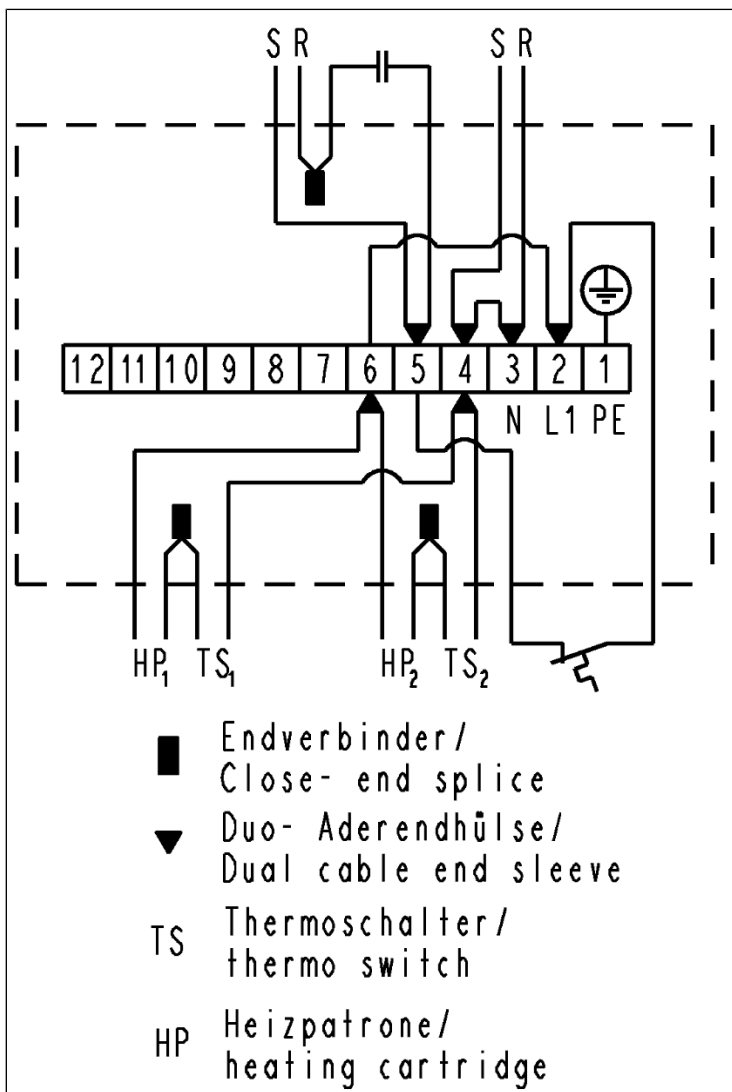

Fig.14: Electrical connection of N036.0.11
6. Connect the power cable to the L 1 and N connections of the terminal blocks (see Fig. 14).